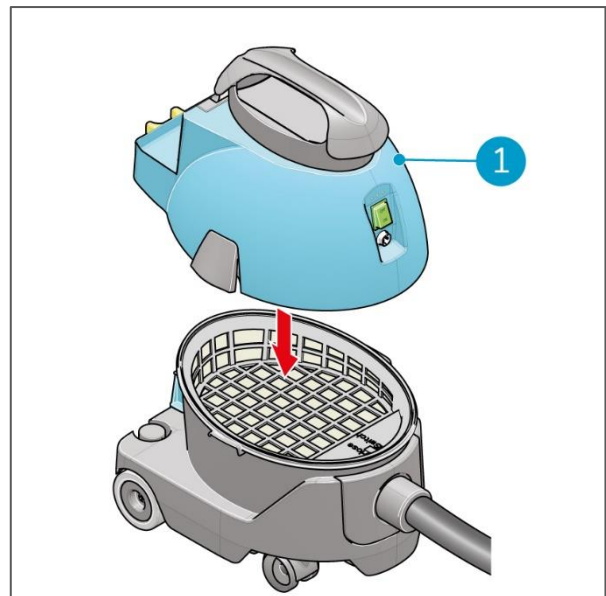

Figure 14
15. Place the head (Figure 14, pos 1) onto the can.